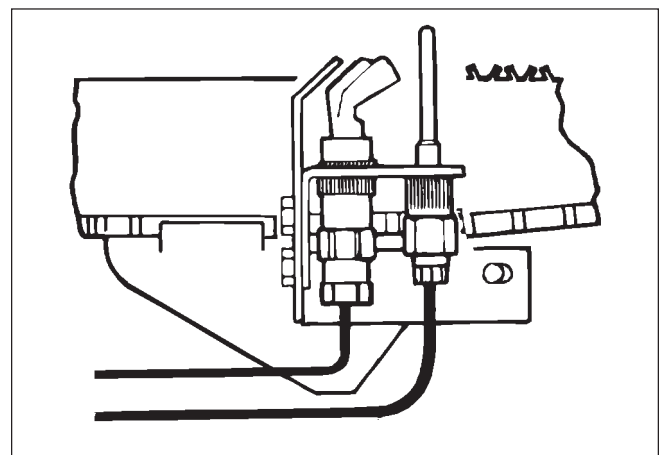

Figure 38. Pilot location (standing pilot).
4. Make sure the pilot burner is positioned next to the main burner (see Figure 38) and there is no soot or dirt on it.